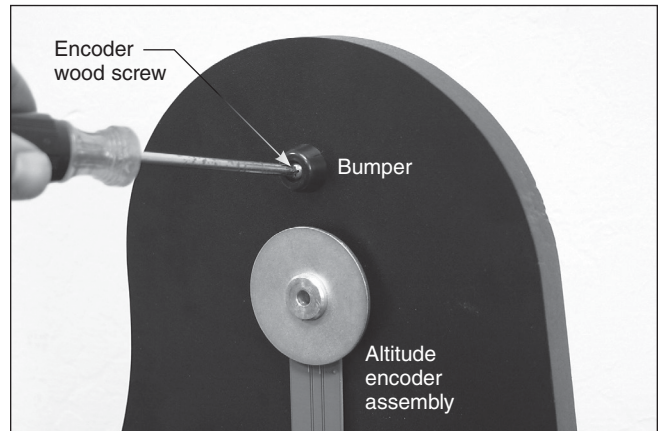

Figure 12. Install the bumper into the pilot hole above the altitude encoder assembly using one of the encoder wood screws.
18. There is a pilot hole above the altitude encoder assembly; this is where the plastic bumper (found in the IntelliScope kit) which protects the altitude encoder assembly will be installed. Take the remaining encoder wood screw from the IntelliScope kit, push it through the bumper, and use a Phillips screwdriver to thread it into the pilot hole until tight (**Figure 12**).